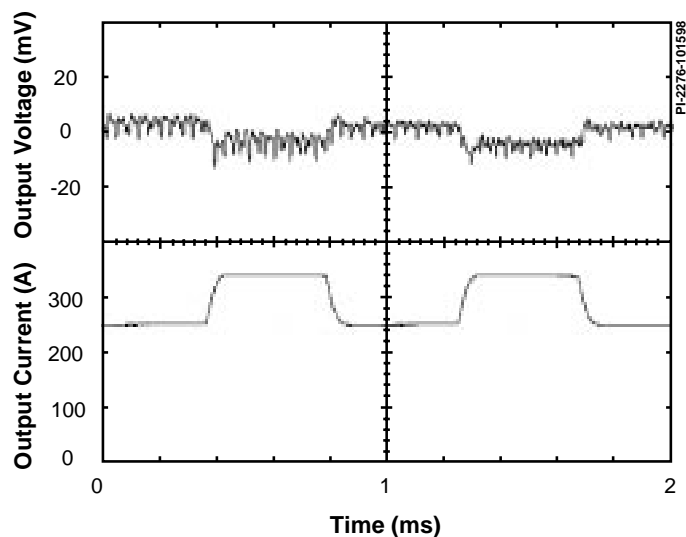

Figure 14. Transient Load Response (75% to 100% of load).
**Load Transient Response** - The output transient response to a step load change from 0.26 to 0.33 A (75% to 100%) is shown in Figure 14. Note that the load transient is extremely small ( $< 20$  mV), and recovers within 100  $\mu$ s. The small step in the load response is due to the finite load regulation of the RD8.